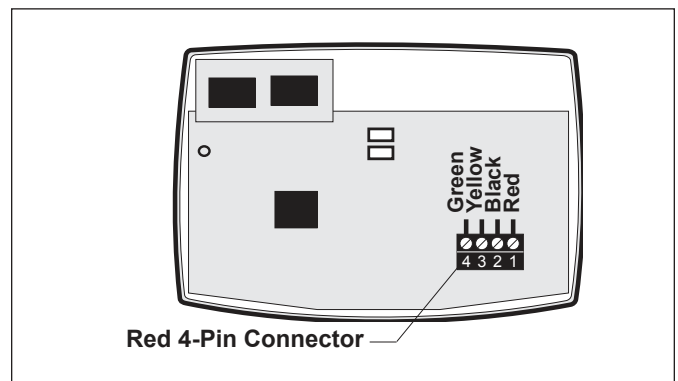

Figure 24. All Button Control Panel PCB
- Drill 1/4" holes at the three (3) mounting screw marks and insert the plastic anchors. Drill a 1 1/4" (min.) to 2" (max.) hole for cable access.
- Remove the red, 4-pin terminal bar from the control panel PCB. Connect the 4 conductor cable to the red, 4-pin terminal bar (see Figure 24). Reconnect the red, 4-pin terminal bar back to the Control Panel PCB.